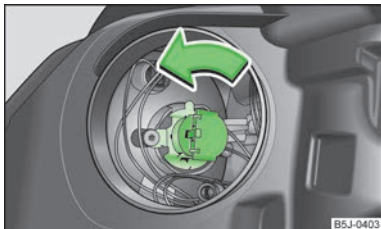

Fig. 146
- Turn the connector with the bulb in **anti-clockwise** direction up to the stop » Fig. 146 and remove it.